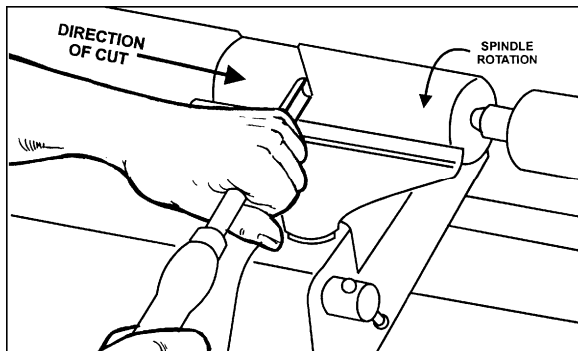

Figure 26
3. Beginning about 2" from the tailstock end of the workpiece, roll the flute (hollowed-out portion) of the tool in the direction of the cut. See Figure 26. Make long sweeping cuts in a continuous motion to rough the piece down to a cylinder.